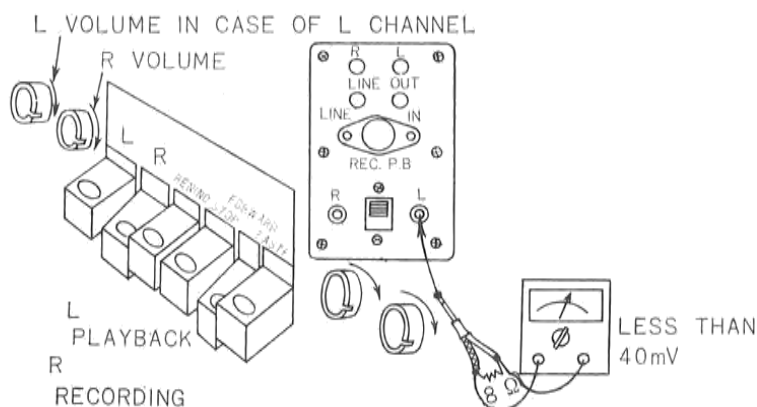

Fig. 14
4) Bias trap adjustment.....Fig. 14
- Connect 8Ω pure resistor to the L channel speaker jack (EXTERNAL SPEAKER L) in a playback condition as shown in Fig.14, then connect V.T.V.M. (vacuum tube voltmeter) to both ends of it. A high-frequency voltage leaking from the oscillating circuit is indicated in this condition. Turn the core of the TRAP COIL (L1) to produce minimum voltage (under 40mV).
- Next, adjust the trap for R channel (R), following the same procedures as used in L channel (L) adjustment.